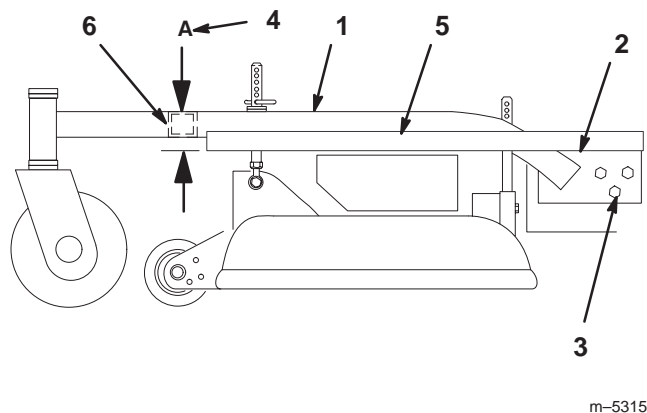

Figure 43
2. Place a long straight edge on top of the engine deck as shown in figure 43.
3. At the carrier frame cross tube, measure location "A" height (Fig. 43). This measurement must be 2–13/16 in. (71.4 mm), plus or minus a 1/4 in. (6 mm).
5. Loosen the carrier frame mounting bolts on both sides of the machine (Fig. 43).
6. Align the carrier frame and engine deck to match 2–13/16 in. (71.4 mm), plus or minus a 1/4 in. (6 mm) at location "A" (Fig. 43).